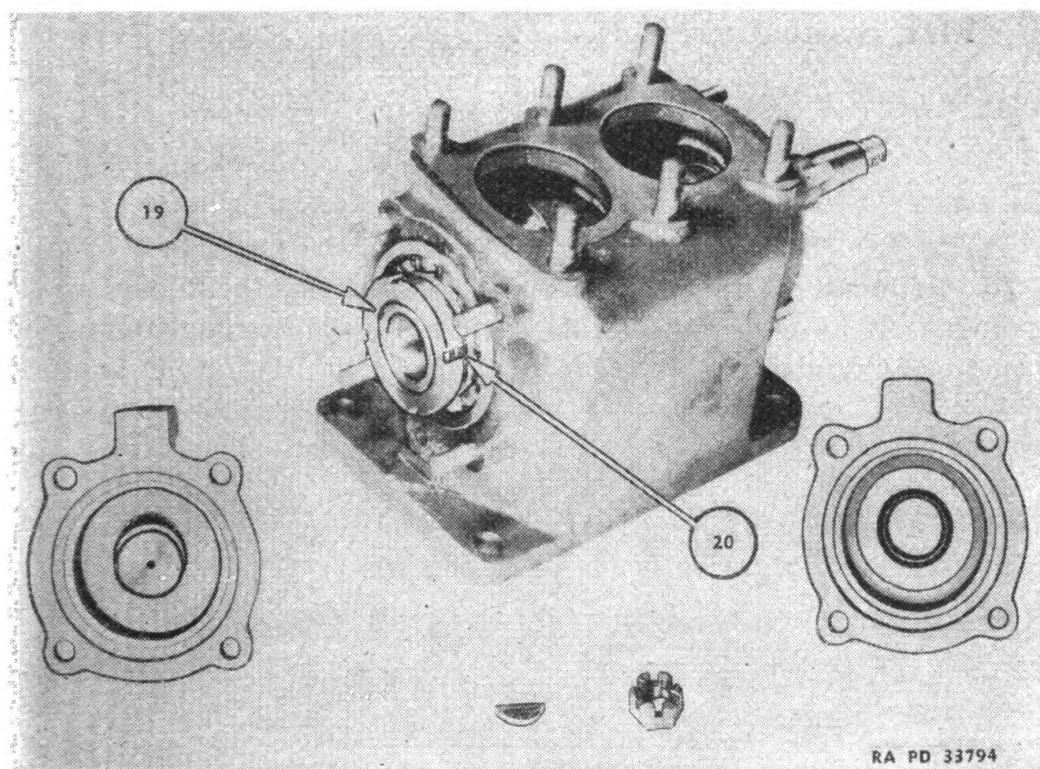

FIGURE 77.—Crankshaft and case assembly.
70. Crankshaft base assembly.—Remove front and rear end covers. Replace oil seals in front cover if worn. Install leather seal with the wiping edge "in". Remove lock nut (19) (fig. 77) and lock (20) to remove the crankshaft. When assembling, pull lock nut up tight and lock in position.